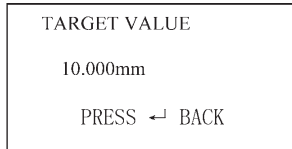

Figure 24
- d. Use the  $\downarrow$  or  $\uparrow$  key to select "Diff Mode" press  $\leftarrow$  to select, as figure 24.